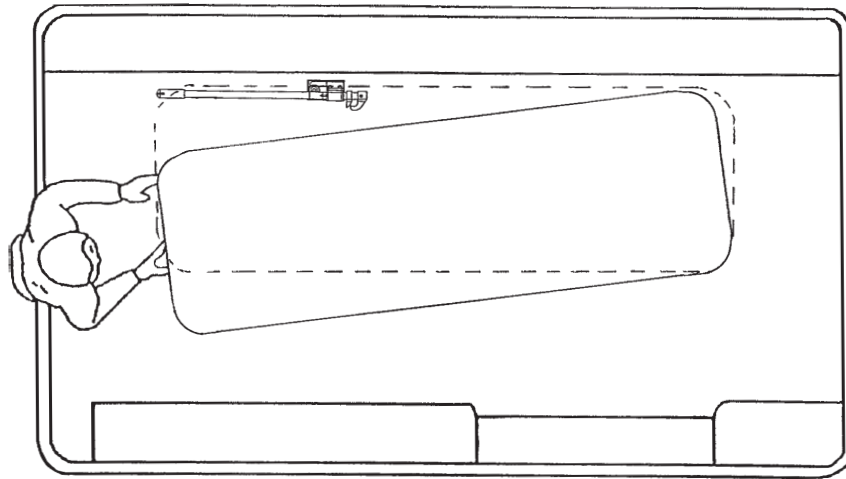

Figure 24 – Guiding the cot into the fastener
6. Push the rail handle (E) forward until the release button engages and the jaws lock in the open position.
7. Guide the cot into the fastener at a slight angle by connecting the loading wheels with the antler one at a time (Figure 24).